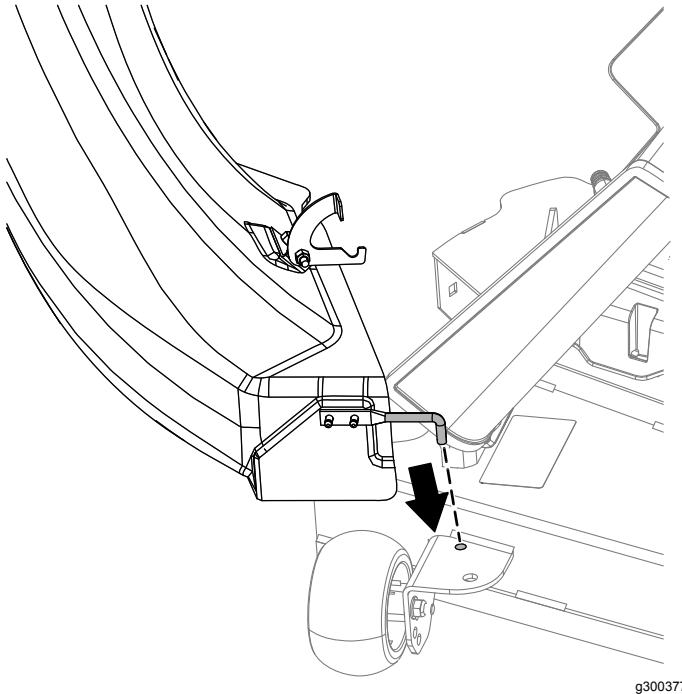

Figure 16
1. Tilt the chute and install the pin into the hole on the mower deck as shown in Figure 16.